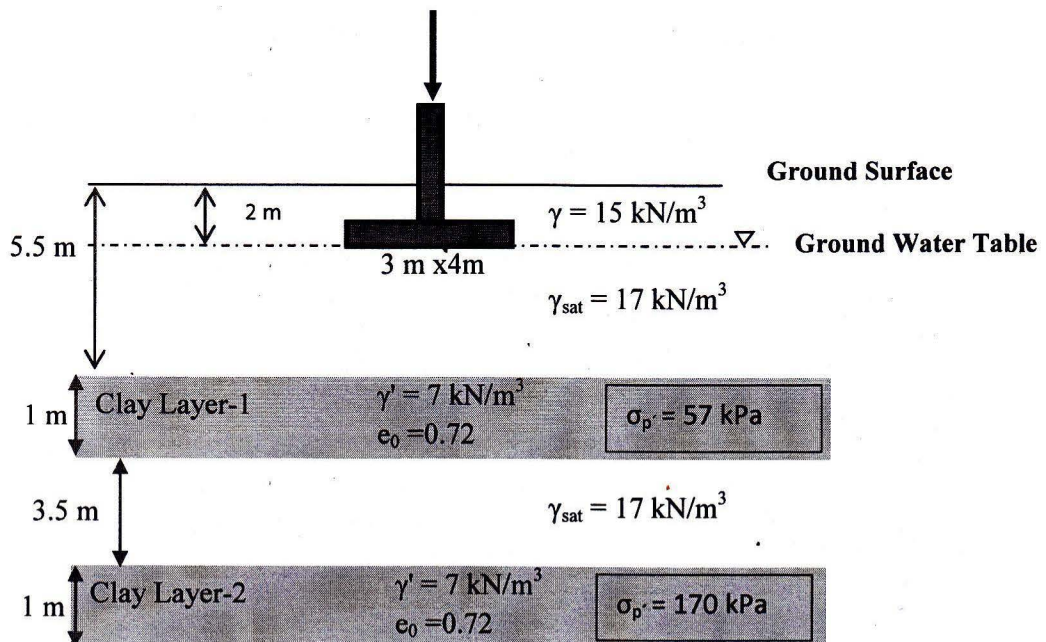

Figure 1
2. Calculate the effective stresses at the mid-depth of both the clay layers (Fig. 1). 4
- (iii) Calculate the increase in stress at the mid-depth of clay layer-1 and below the centre of the footing (as shown in Figure 1) under 1000 kN vertical load. Use the influence chart.